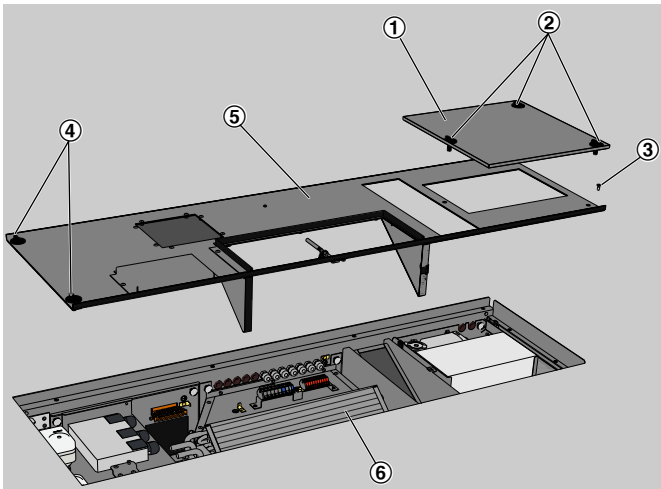

Fig. 25: Heat exchanger in an FSL-U-ZAS, right side construction (example)
- 3. ▶** Remove the cover of the filter chamber (Fig. 25/1). To do so, loosen the fasteners (Fig. 25/2).
- 4. ▶** Remove the inspection access panel (Fig. 25/5). To do so, loosen the Phillips screw (Fig. 25/3) and the two fasteners (Fig. 25/4). Put the inspection access panel aside.
Remove the heat exchanger (Fig. 25/6) by lifting it out of the unit.